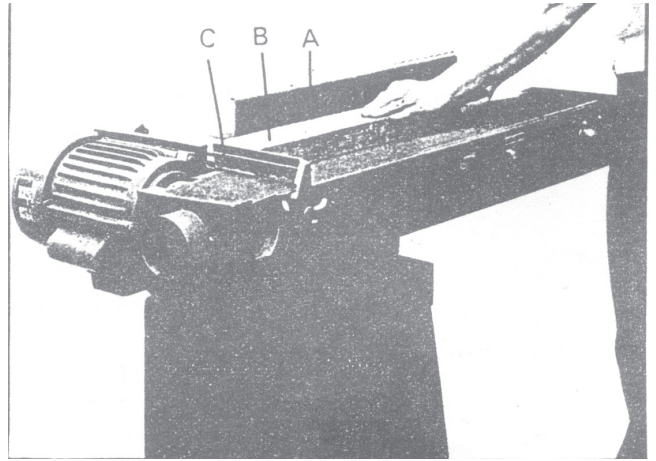

Fig. 8
1. Mount the control plate (A) for flat grinding..
2. Adjust button forced arm (C) for a more secure work, see Figure 8.